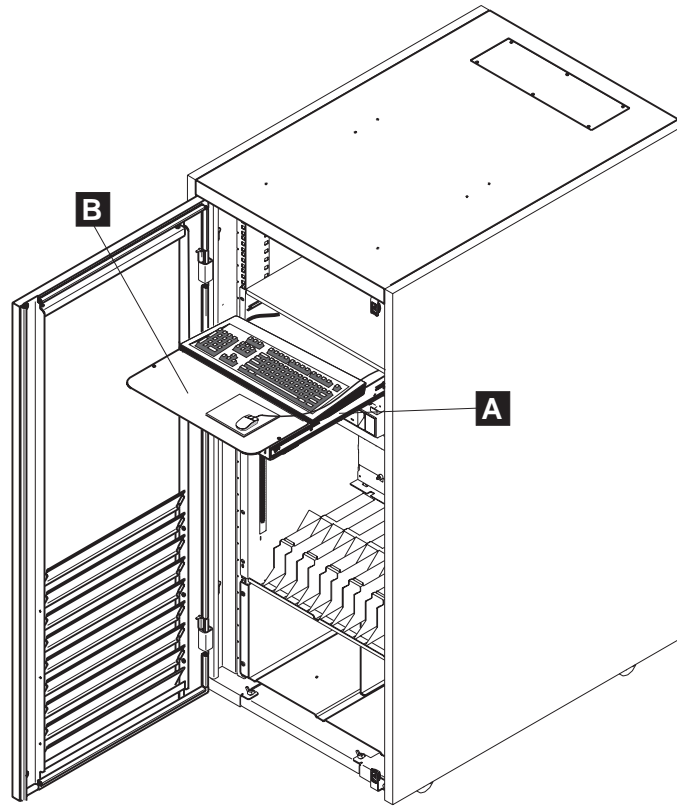

Figure 1-21. Keyboard Installation in 29U Rack
1. ____ Open the service drawer **A**, and install the mouse plate **B** as shown in Figure 1-21.